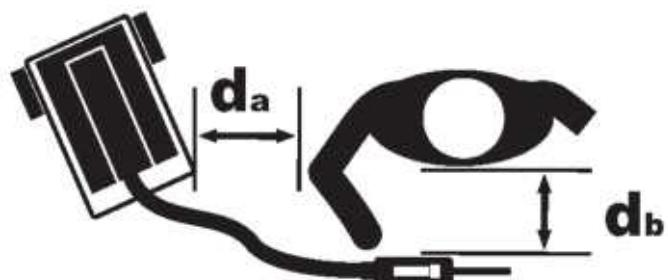

Fig. 7
- Keep your head and trunk as far as possible from the welding circuit. Do not work close to the welder, or seated or leaning on it. Minimum distance: Fig. 7 Da = cm 50; Db = cm 20